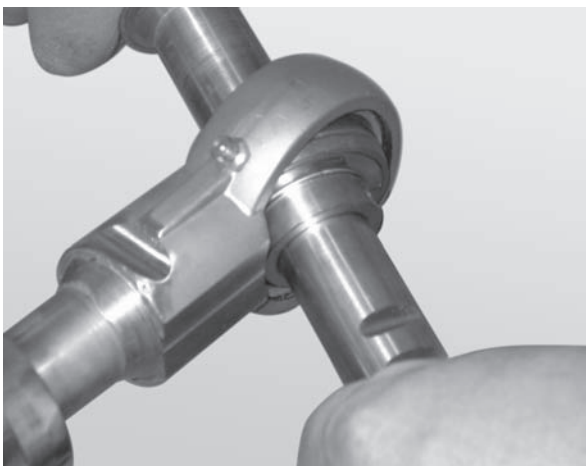

Figure 88
3. Insert the rod end of another bearing shaft through the bearing orifice (**Figure 88**).